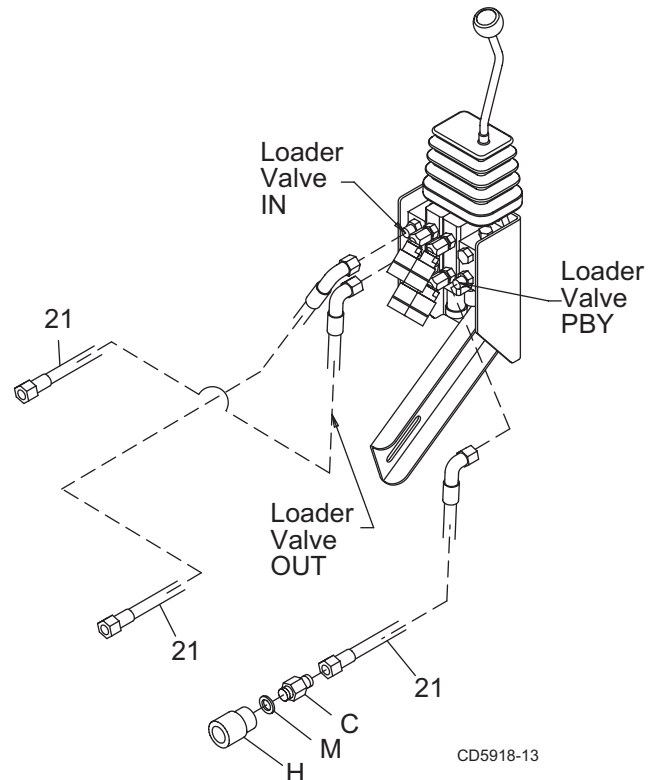

Figure 30 Loader Valve Hose Assembly
1. Attach 90° ends of hoses (21) to IN, OUT and PBY ports of the loader valve.
4. Attach adapter (C), yellow band (M), and female quick coupler (H) to end of PBY hose (Figure 30).